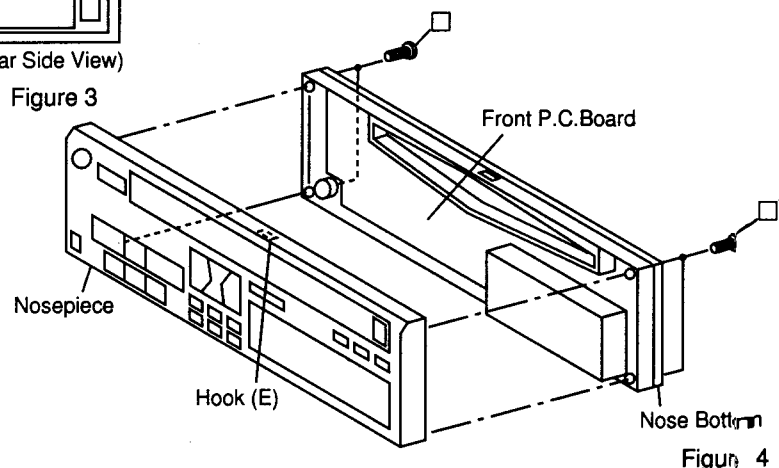

Figure 4
- (1) After removal of Nose Unit, remove four screws marked "□" and one Hook (E) as shown in Figure 4.